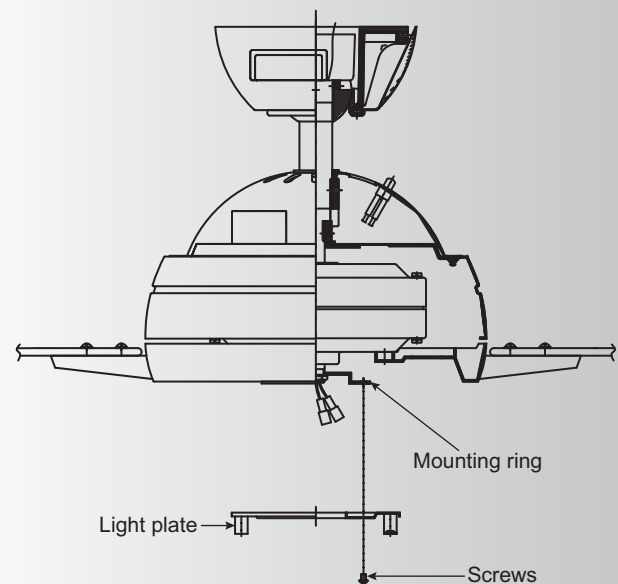

Fig. 18
Step 1. Loosen the two screws on the mounting ring attached to the motor shaft and "remove" and save the third screw. (Fig. 18)